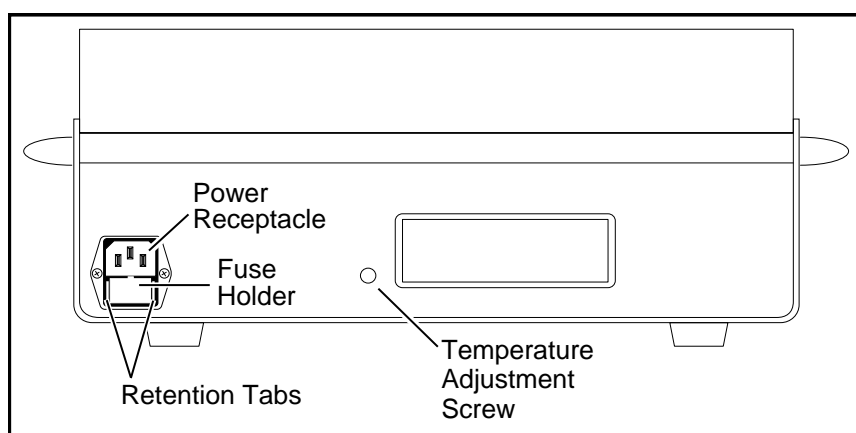

Figure 4: Rear View of LCx Covered Dry Bath
6. If the indicated temperature is not 95°C ($\pm 1^{\circ}\text{C}$) turn the adjustment screw located on the rear of the LCx Covered Dry Bath (see Figure 4). Turning the adjustment screw clockwise increases the temperature setting.
2. Locate the fuse holder below the power receptacle (see Figure 4).